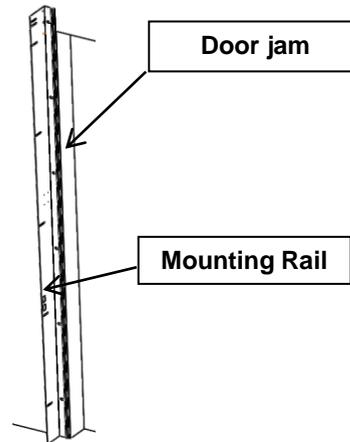

Figure 6 Attaching mounting rail flush to door jam.
1. Re-measure door jamb width to confirm it matches the dimension on the approval drawing. Align the short leg of Mounting Rail with the door jamb so the shorter leg of the rail is flush with the inside of the door jamb. If you cannot locate this measurement in the included paperwork, please call DL Manufacturing. **(Figure 6)**